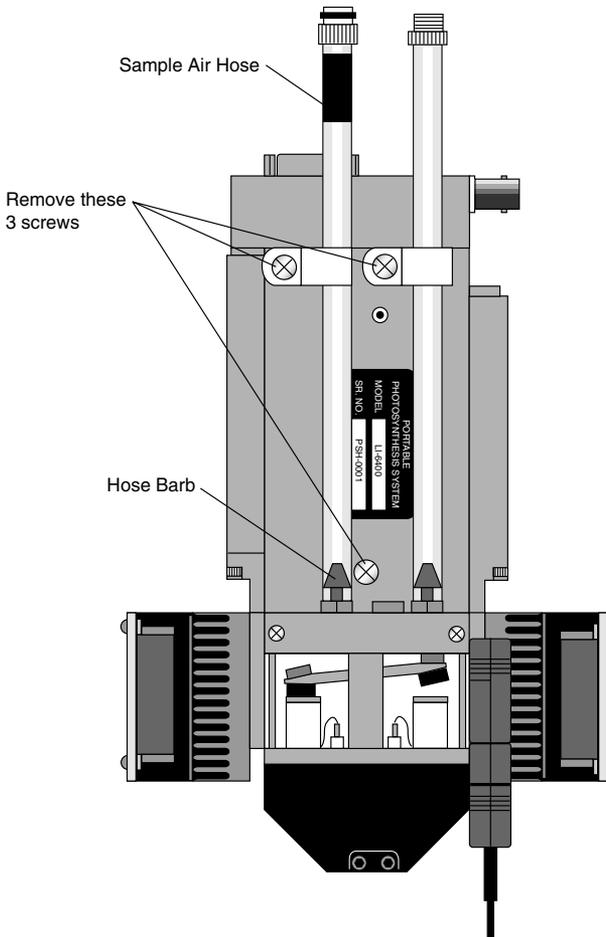

Figure 2-5. Remove the 3 Phillips head screws from the bottom of the sensor head.
- a. Turn the sensor head over and remove the 3 Phillips head screws as shown in Figure 2-5.